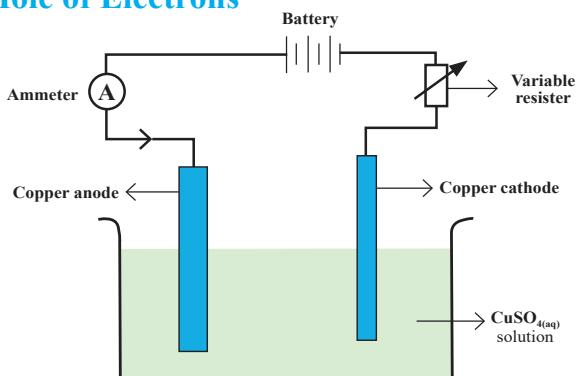

Figure 10.2 Apparatus for calculating the mass of copper deposited
The charge on 1 mole of electrons can be found from a simple electrolytic experiment. The apparatus for this is shown in **Figure 10.2**.
The procedure is to weigh the pure copper anode and pure copper cathode separately and arrange the apparatus during the electrolysis of aqueous copper(II) sulfate as shown in **Figure 10.2**.